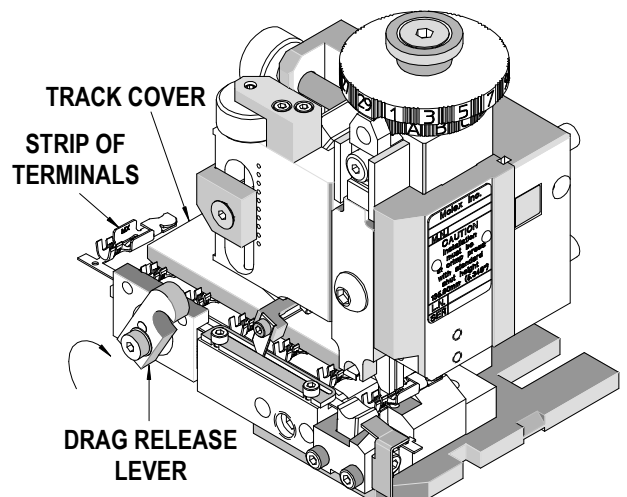

Figure 2-27
3. Using a 3mm hex wrench, loosen the (2) M4 SHCS holding the track cover in place. See Figure 2-27.
5. When adjustment is complete, tighten the (2) M4 SHCS.